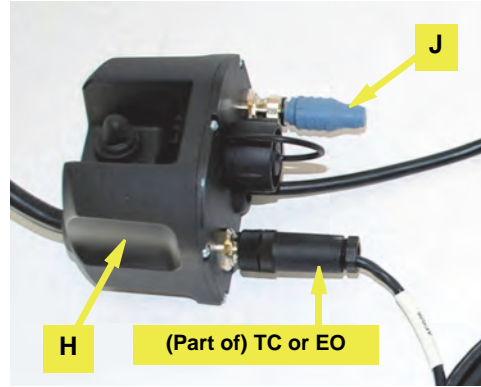

Figure 5d: CAN harness and terminator connected to junction box
e. Connect the threaded 5-pin connector on the CAN bus harness **TC** (eDriveTC) or **EO** (eDriveX) to either of the threaded connectors on the junction box **H**. Connect the CAN bus terminator **J** to the other threaded connector on the junction box (Figure 5d).